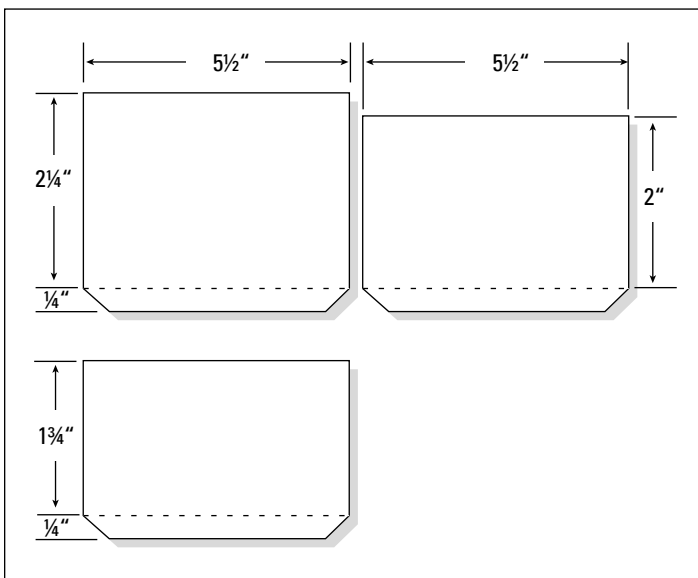

Figure 5-3:
2. Copy the templates from Figure 5-3 onto red, dark pink, and pink card; score along the dotted lines so that the folds are crisp and accurate.